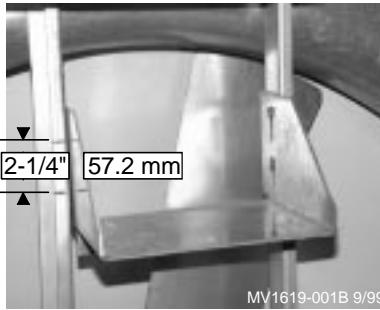

Figure 2. U-Motor Mounting Bracket
6. Mount the new U-Motor Mount Bracket, **see Figure 2**, to the posts with the carriage bolts and lock nuts provided. (Note: The top of the slots should line up with the holes to allow the bracket to move up to provide belt tension adjustment).